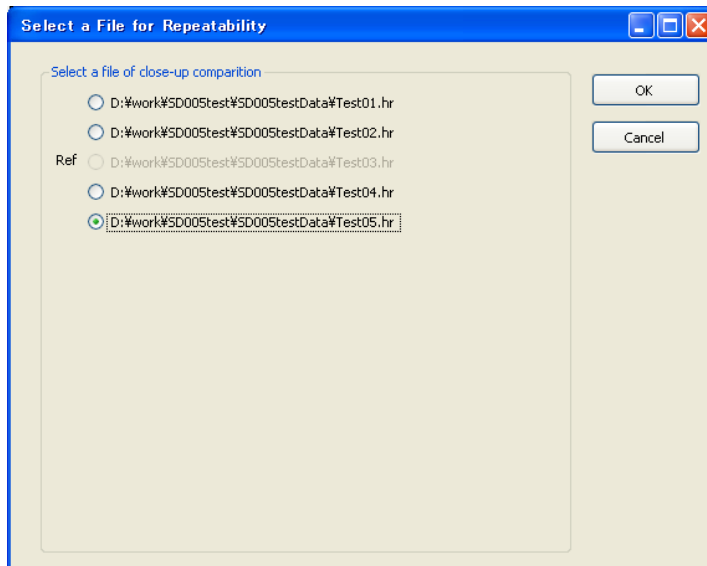

Fig.4-46 Select file for repeatability
- 10 If you selected Repeatability List in Step 6, the **Select a File for Repeatability** dialog box shown in Fig.4-46 opens. Select the comparison file to be printed and click the **OK** button.
- 11 If a printed report already exists, the dialog box shown in Fig. 4-46 opens. If you want to overwrite the report PDF, click the **Yes** button. Otherwise, click **No** to quit the report printing.